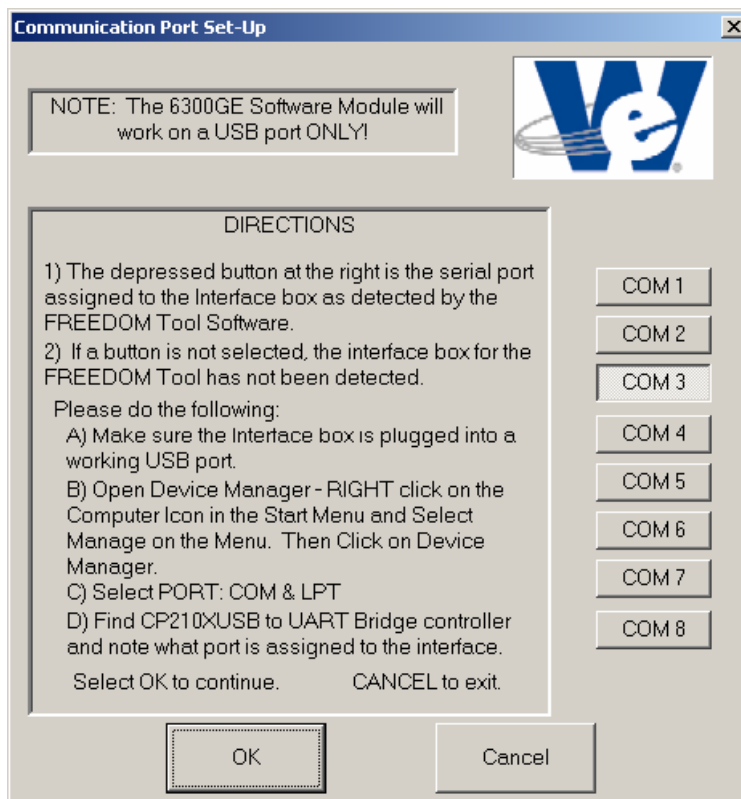

Figure 19
1. When the 6300GE Software Module begins to run, a window similar to the one seen in Figure 19 will appear. This is the **Communication Port Set-Up** window. The Communication Port Set-Up window allows the users to choose the serial port that is associated with the 6300GE Interface Box. When the 6300GE Interface Box is plugged into a USB port on the notebook computer, the Notebook computer assigns a virtual serial port to the interface box. This virtual serial port is used to communicate between the computer and the 6300GE Interface Box. If the drivers for the 6300GE Interface Box were successfully installed, the assigned virtual serial port will be selected on this window. Figure 19 shows that the Interface box has been assigned COM3 for its virtual serial port.